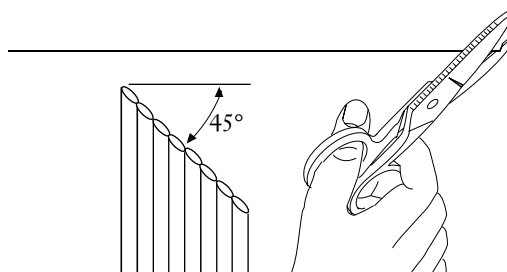

Figure 8
5.4 At the free end of the ribbon, use scissors to cut the end at a 45° angle (Figure 8).